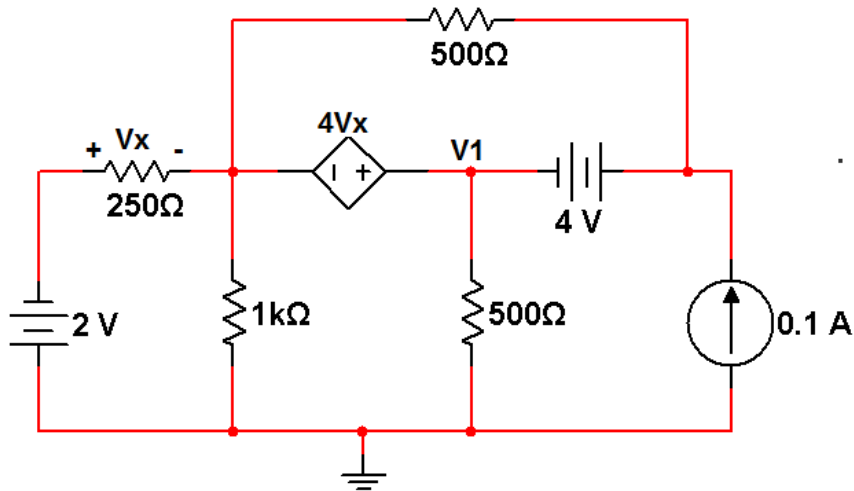

Figure 9 – Circuit for pre-lab question 1.
1. Build the circuit in Fig. 9 in Multisim and measure the node voltage V1 relative to ground. Take a screen shot of your circuit.